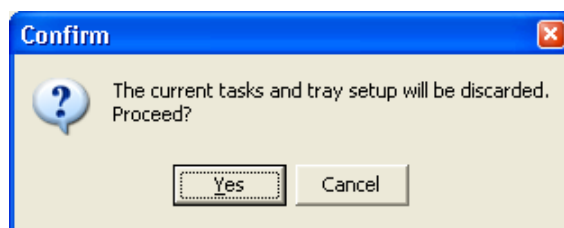

FIGURE 2-21 Confirm Discarding the Tray and Tasks
- b) The **Confirm** message box will be presented. Choose **Yes** (FIGURE 2-21) if you are willing to lose any unsaved data. If you want to keep the existing tray and tasks setup, quit with **Cancel** and start the wizard from the **File** menu (**New/Sample Carrier**).